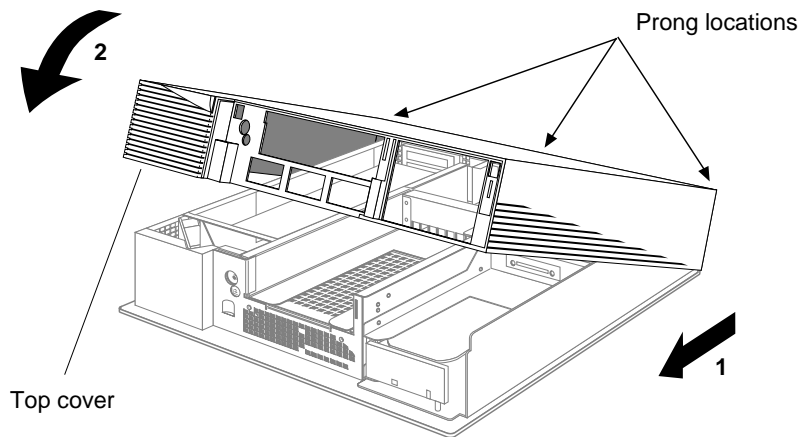

Figure 3-6 Replacing the Top Cover on the Indigo² Chassis
- Facing the front of the system, place the prongs on the underside of the cover into the slots under the top ridge of the backplane of the chassis, as shown in Figure 3-6.